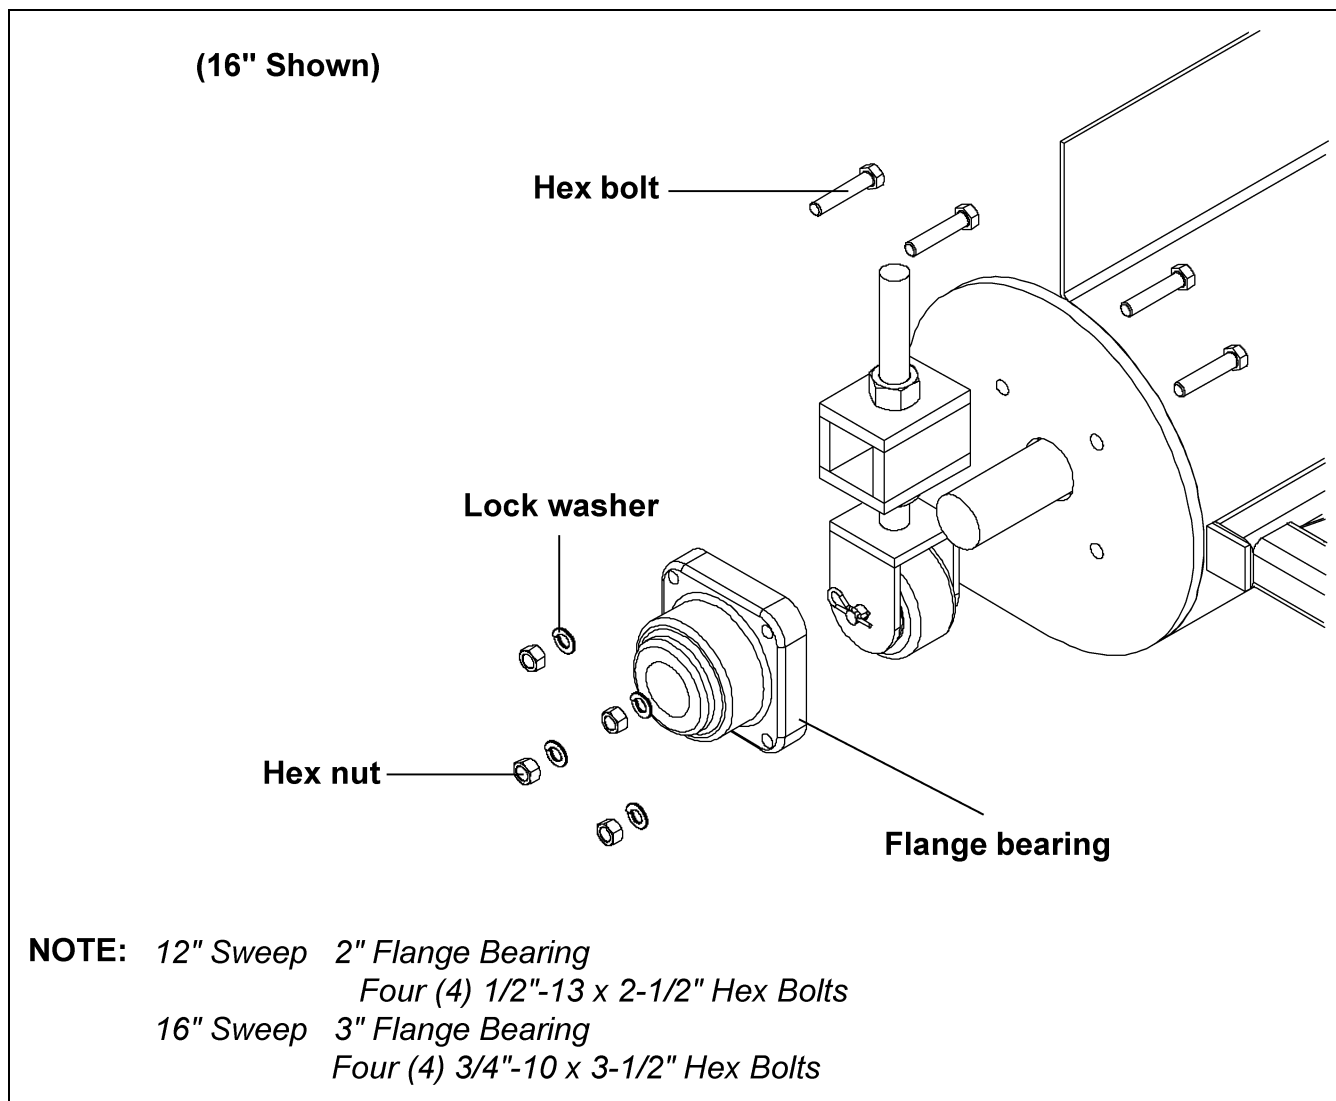

Figure 5G
A. Slide the flange bearing onto the end stub and bolt it to the end plate using hex bolts, lock washers and hex nuts as shown in Figure 5G.